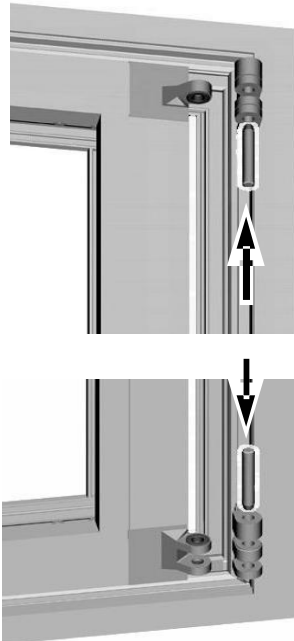

Fig. 1
2. Correct seating of the stainless steel runner profile in the bottom track (U) must be observed (see Fig. 1).
2. Hang the panel which is hinged to the frame first and secure by partly knocking in the hinge pins provided (see Fig.1).